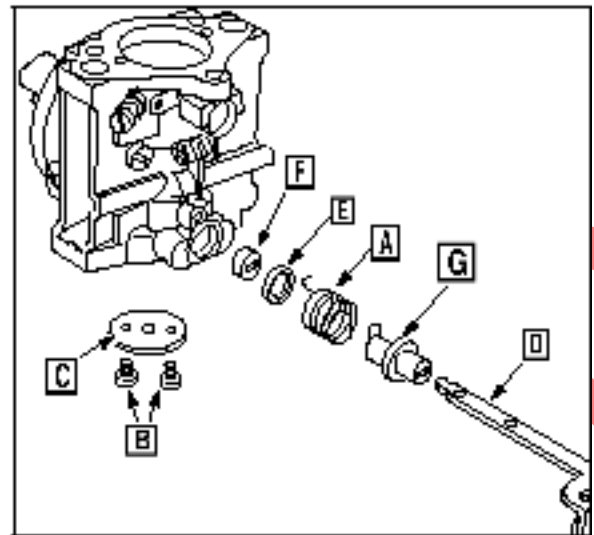

Fig. 101
Unhook the choke shaft spring ([A] Fig. 101).
Remove the choke plate screws (B). Remove the choke plate (C). Remove the shaft (D), spring (A), washer (E), and retainers (F) and ([G] Fig. 101).
Remove the throttle shaft screws ([B] Fig. 101) Remove the throttle plate.